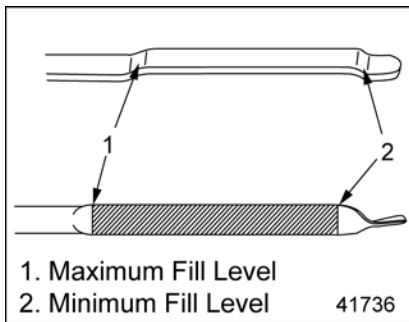

Figure 13 Oil Dipstick
- 5. Approximately five minutes after shutdown, check the engine oil level. If necessary, add oil up to the maximum fill level on the oil dipstick. (See Figure 13). Do not overfill.